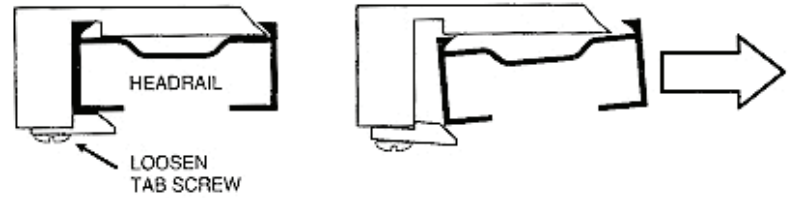

Figure 1: Loosen the tab screw and tilt the back of the headrail down to remove the shade assembly from the installation brackets.
- a. Wall mount: Attach the angle brackets onto the wall surface two (2) inches above the window (using the #8-3/4" Phillips screws). Then attach a mounting clip to each angle bracket using a #6-1/4" se-tapping Phillips screw. (see Figure 1)
Remove the shade assembly from the installation brackets: Raise the shade all the way to compress the fabric. Loosen the tab screw on the back of each mounting bracket. Tilt the back of the headrail down to remove the rail from the brackets (Figure 1). Place the shade assembly on a clean work surface. Note: If you have a steel bracket without the tab screw, the shade may be removed utilizing the same tilting action shown. (If they do not include the stringing needle then get one as well).